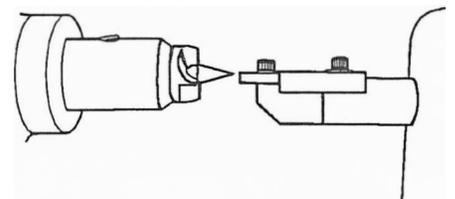

Fig. B-8
6. Move the Mark V headstock next to the table. Raise or lower the table to vertically align the cutter with the lathe drive center. The top surface of the cutter must be the exact height as the tip of the lathe drive center, as shown in Fig. B-8. When aligned, lock the table.